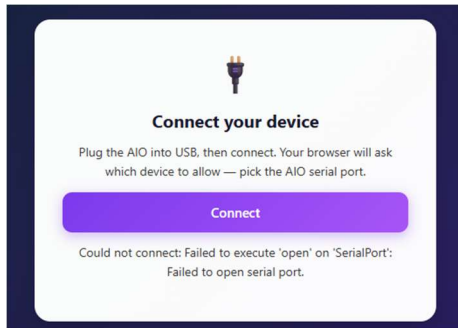

Figure 3
<https://flash.bigtimeradio.us> (see figure 3). **REMEMBER: YOU WILL NEED TO INSTALL LIBUSB DRIVERS USING ZADIG ON WINDOWS.**
3. Enter “+++” and press Enter (see figure 3)